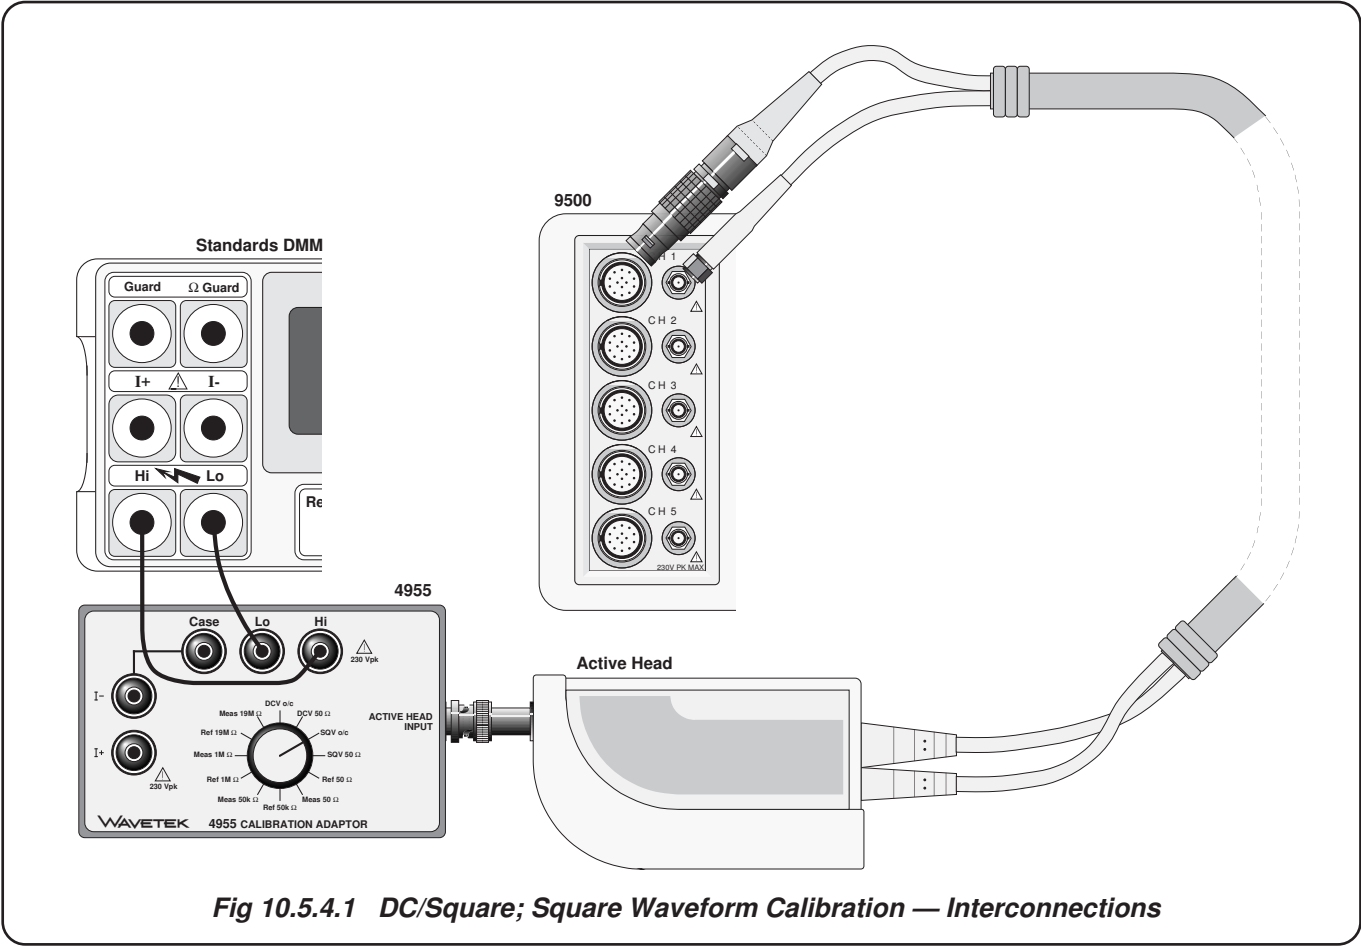

Fig 10.5.4.1 DC/Square; Square Waveform Calibration — Interconnections
1. **Connections** Ensure that the 9500B is connected to the Standards DMM as shown in *Fig. 10.5.4.1*, or via a similar BNC-4mm adaptor, and that both instruments are powered on and warmed up.